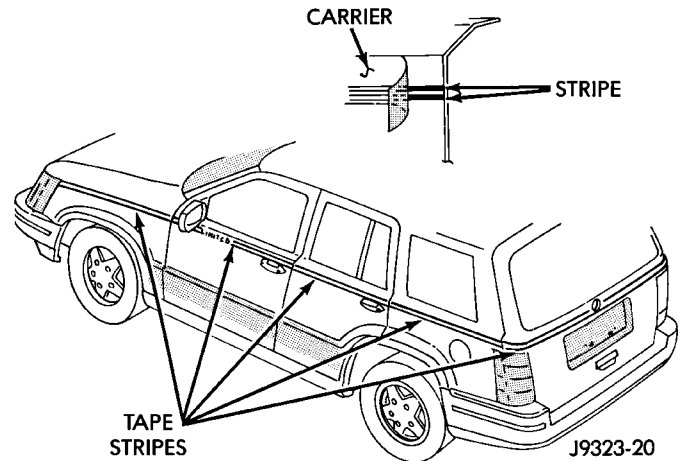

Fig. 8 Tape Stripe
(1) With backing still in place, position stripe across panel to receive the stripe. Apply masking at top of stripe to hold it in position.
(2) Mark outside edge of panel on stripe with grease pencil.
(3) Trim stripe to within 17 mm (0.750 in.) of out-line marks.
(4) Spread stripe across a smooth flat work surface, stripe side down.
(5) Peel paper backing away from stripe exposing adhesive backing of stripe (Fig. 8).
(6) Apply soap solution liberally to adhesive backing of stripe.
(7) Apply soap solution to body panel surface.
(8) Place stripe into position on body panel. Smooth out wrinkles by pulling lightly on edges of tape stripe until it lays flat on panel surface.
(9) Push air pockets from under tape stripe to perimeter of panel from center of the tape stripe out.
(10) Remove air bubbles from under tape stripe using a body putty squeegee.